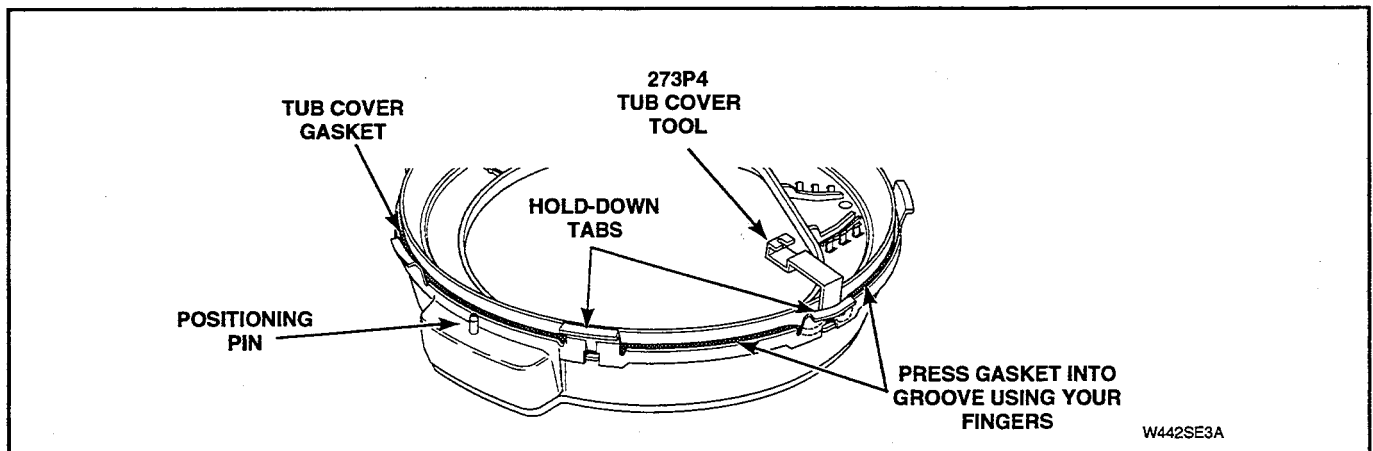

Figure 5-26
- g. Starting at positioning pin located at the bleach funnel area, lay gasket into gasket groove of tub cover. See Figure 5-26.
- i. Install gasket past ends of hold-down tabs to bottom of gasket groove using semi-circled end of tool Part No. 273P4. See Figure 5-26.
- Starting at the positioning pin located at the bleach funnel area, lay gasket into gasket groove of tub cover. See Figure 5-26.
- Install gasket past ends of hold-down tabs to bottom of gasket groove using semi-curved end of tub cover gasket tool Part No. 273P4. See Figure 5-26.